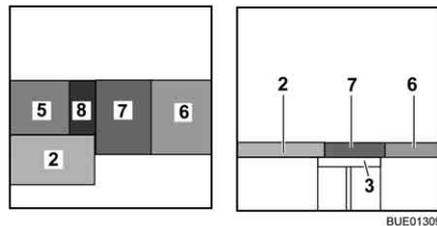

Fig. 142 After conversion
- Place the seat cushion (Fig. 142,7) in the centre.
- Place the back cushion (Fig. 142,6) between the seat cushion and the wall.